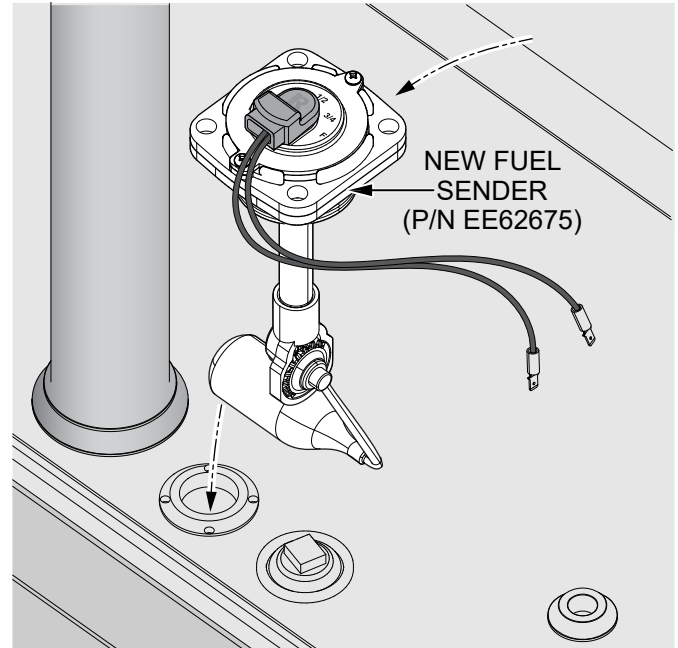

Figure 6. Install New Fuel Sender
6. Install the **new fuel sender (P/N EE62675)** into the fuel tank. Make sure to orient the fuel sender as noted during step #5. See Figure 6.